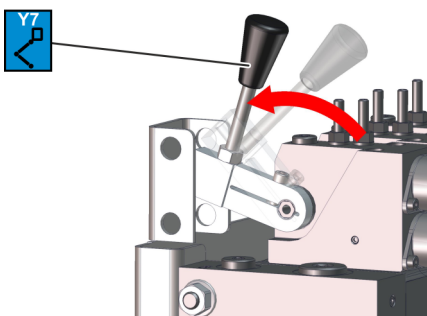

Fig. 183: Valve Y7
4. ➔ Pull the valve (Fig. 183/Y7) up.